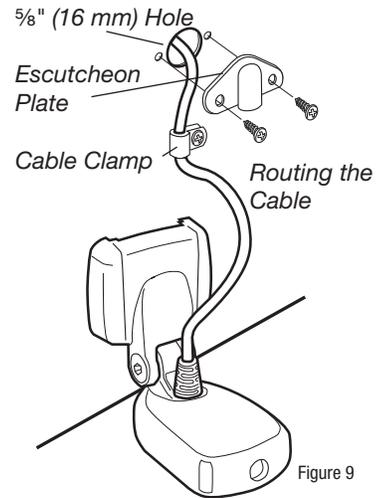

Figure 9
- If you choose to pass the cable through the transom of the boat, a 5/8" (16 mm) hole must be drilled above the waterline. Fill this hole with marine-grade silicone sealant, and use the supplied escutcheon plate to dress the entry hole. This will require two #8 x 5/8" (16 mm) screws provided and drilled holes of 3/4" (19 mm). (See Figure 9.)